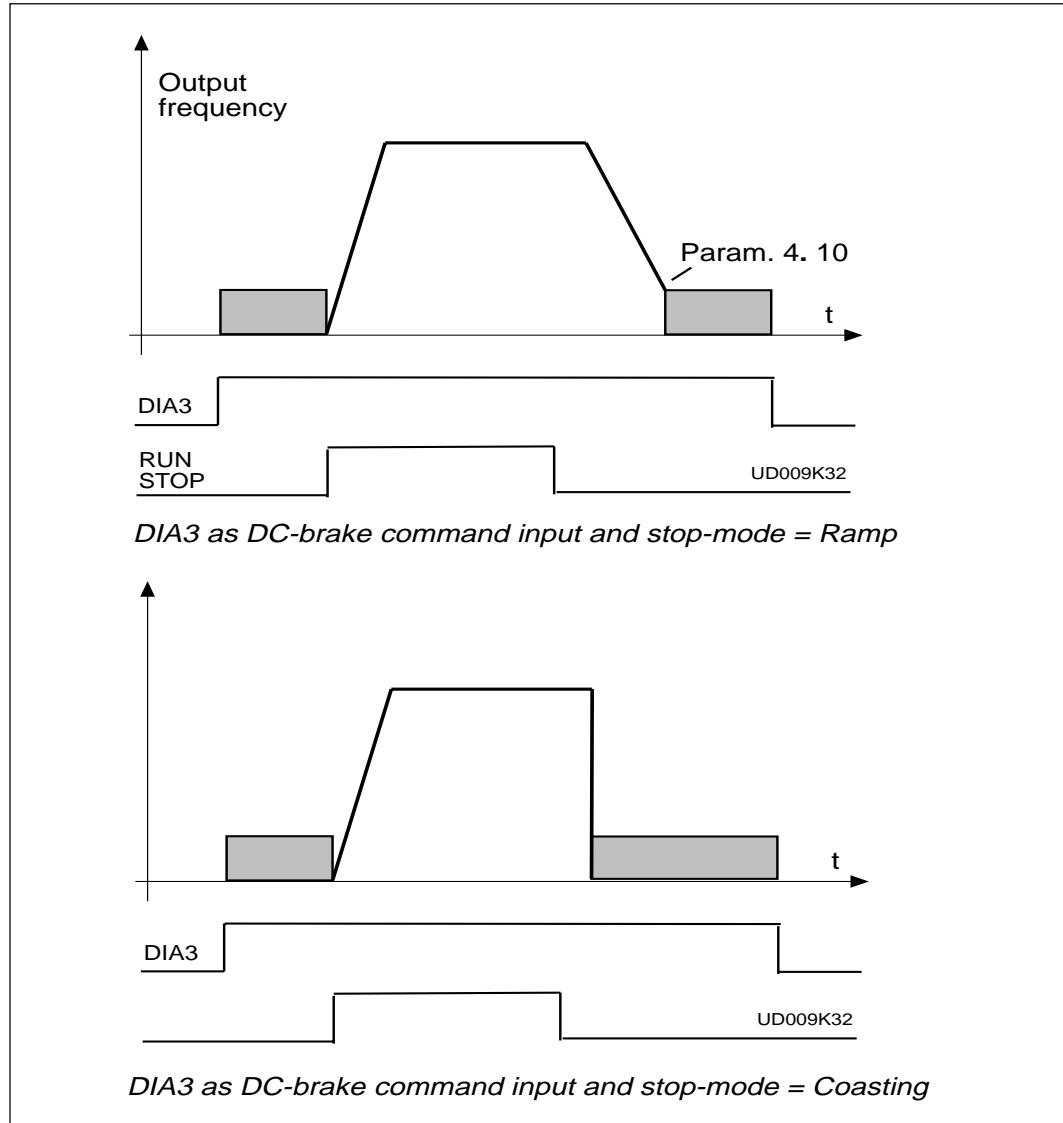

Figure 3.5-4 DIA3 as DC-brake command input:
- 9:** DC-braking command contact closed = In Stop mode, the DC-braking operates until the contact is opened, see figure 3.5-4. DC-brake current is set with parameter 4. 8.